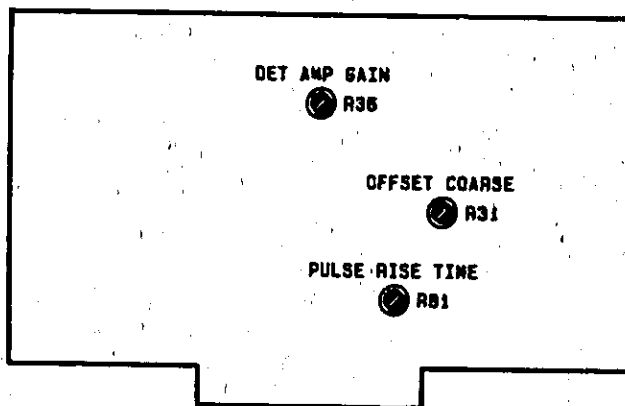

Figure 5-4. A6 Assembly Adjustment Locations
2. Connect the voltmeter to A6TP8 and the oscilloscope to A6TP6. Adjust OFFSET COARSE, A6R31 (see Figure 5-4) to obtain 5.9 ± 0.1 Vdc on the voltmeter.